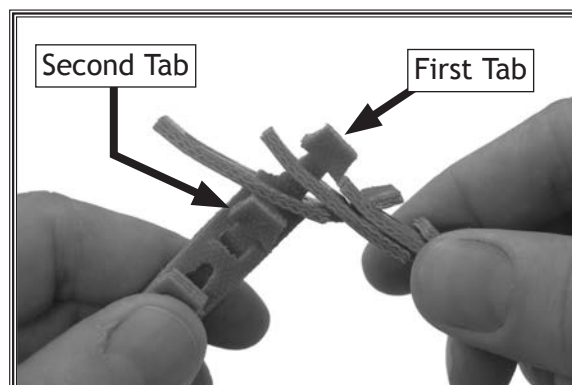

Figure 9. Connecting belt together.
1. Push the first tab on one end of the belt through the second slot (the one with two layers) on the other end of the belt, as shown in **Figure 9**.